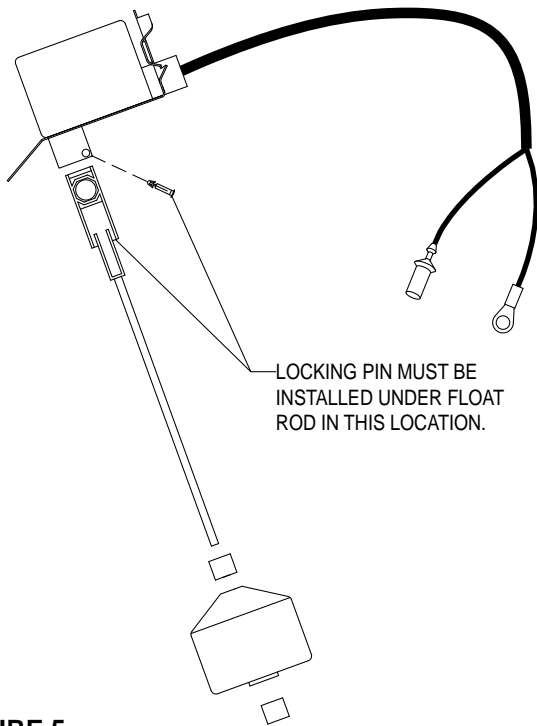

FIGURE 5
10. Assemble the float assembly per figure 5.